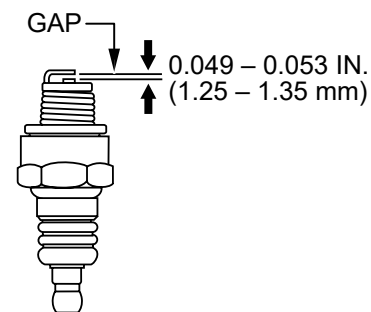

Figure 63. Spark Plug Gap Adjustment
4. Measure the spark plug electrode gap (Figure 63) with a wire-type feeler gauge. If needed, adjust the gap to 0.049–0.053 in. (1.25–1.35 mm) by carefully bending the side electrode.